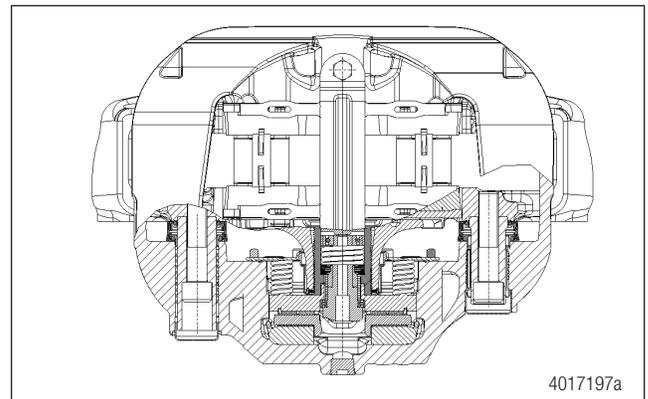
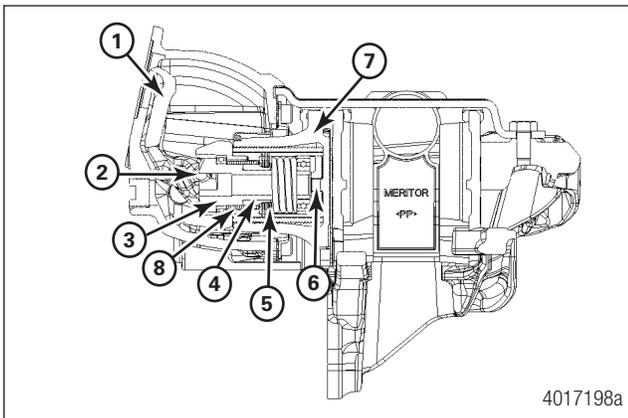

Fig. 3.2 Top Down View
Fig. 3.3 Side View
From the rest position, the air chamber push rod moves FORWARD, rotating the operating shaft (1). When the piston moves FORWARD through the built-in running clearance, the ball-ended drive pin (2) starts to contact the driving side of the fork on the end of the adjuster. Further movement of the air chamber push rod rotates the operating shaft, causing the adjuster to rotate because the built-in clearance has been taken up. The outer drive sleeve (4) is fixed to the adjuster insert (EU variants also have an adjuster stem) and is rotated by the inner drive (3) sleeve through frictional forces developed by the unidirectional spring (5). If the rotation is through less than the correct running clearance, the friction in the threads of the tappet and piston increases due to the clamping force on the pads. The piston (7) cannot rotate in the adjuster housing, and due to the high torque to turn the tappet, the clutch pack (8) slips, preventing adjustment of the mechanism below the correct running clearance. Figure 3.2 and Figure 3.3.